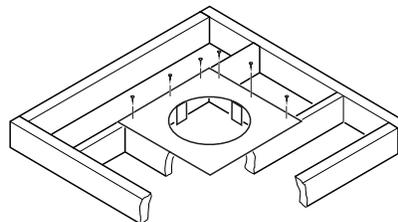

**Figure 21 - Offset with Wall Strap and 45° Elbows**
1. Determine the route your vertical venting will take. If ceiling joists, roof rafters, or other framing will obstruct the venting system, consider an offset (see Figure 21) to avoid cutting loadbearing members. **Note:** Pay special attention to these installation instructions for required clearances (air space) to combustibles when passing through ceilings, walls, roofs, enclosures, attic rafters, etc. Do not pack air spaces with insulation. Also note maximum vertical rise of the venting system and any maximum horizontal offset limitations. Offsets must fall within the parameters shown in Figure 8 on page 6.
**Note:** If an offset is needed to avoid obstructions, you must support the vent pipe every 3 feet. Use wall straps for this purpose (see Figure 21). Whenever possible, use 45° elbows instead of 90° elbows. The 45° elbow offers less restriction to the flow of the flue gases and intake air.
5. Place the flashing over the pipe section(s) extending through the roof. Secure the base of the flashing to the roof and framing with roofing nails. Be sure roofing material overlaps the top edge of the flashing as shown in Figure 21. There must be a 1" clearance from the vent pipe to combustible materials.